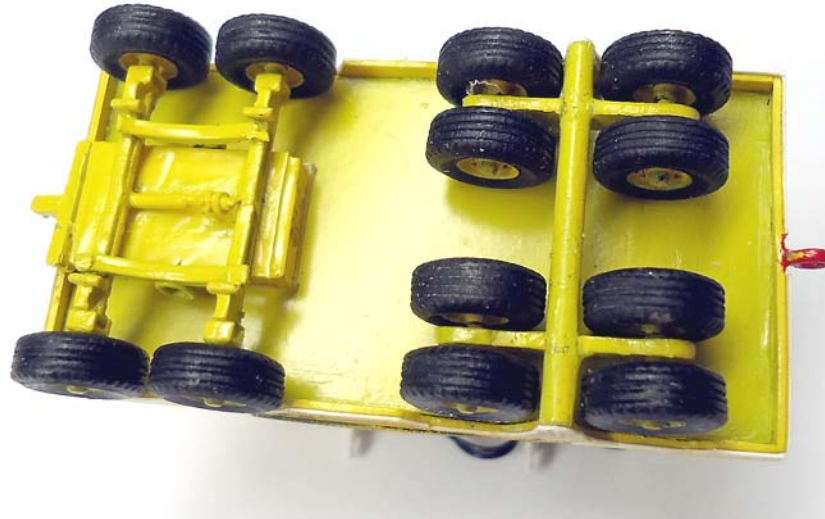

Figure 15. Transporter Undercarriage
- 4) Measure 7 mm from each corner and attach the 4 cradle stops, as shown in Figure 15.